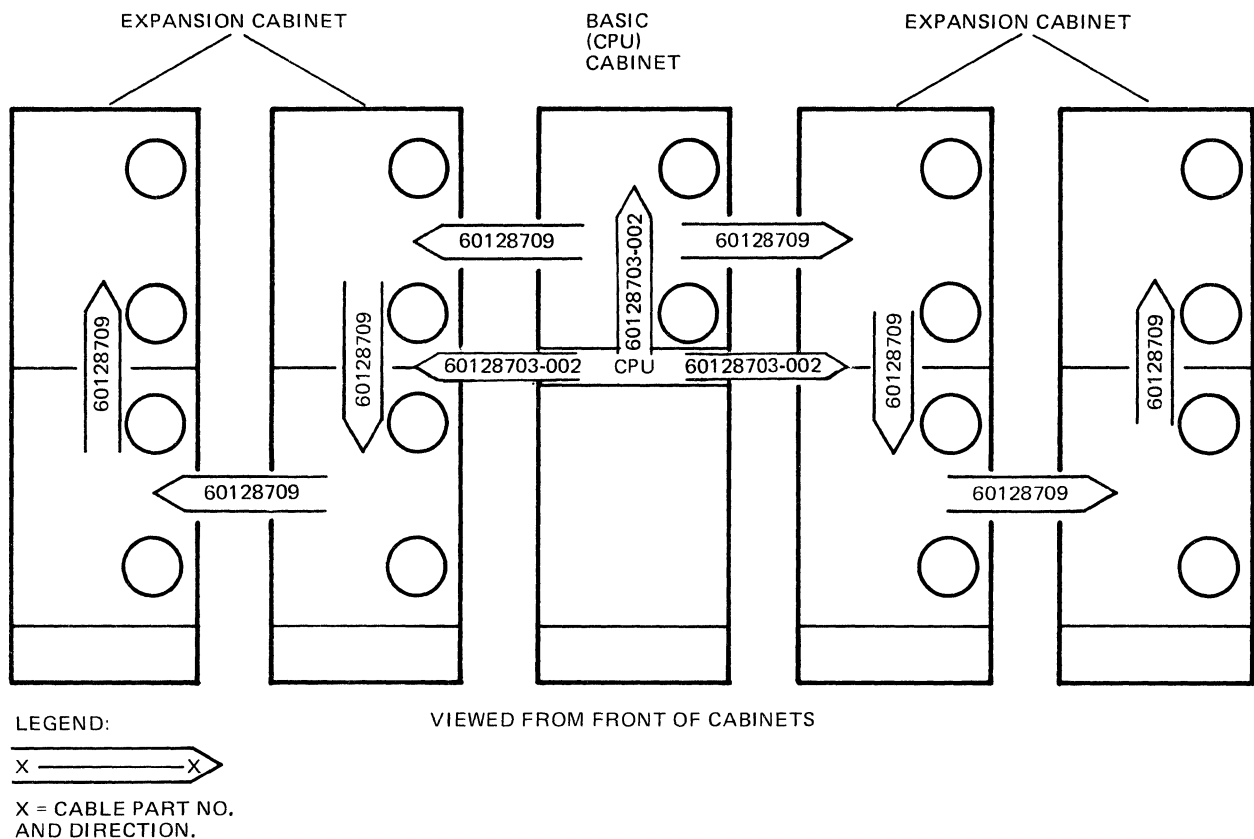

Figure 2-8. Typical MTU to MTU Configuration - Nonbulkhead System
3. Daisy chain each additional MTU as shown in Figure 2-8, and verify the conditions described in steps 4 and 5 of this procedure.
3. Daisy chain each additional MTU as shown in Figure 2-8, and verify conditions described in steps 4 and 5 of this procedure.
4. Daisy chain each additional MTU as shown in Figure 2-8, and verify conditions described in steps 2 and 3 of this procedure.
1. Determine the cabinet configuration (see Figure 2-8), and complete the appropriate (First MTU) step 1 or 2 above.